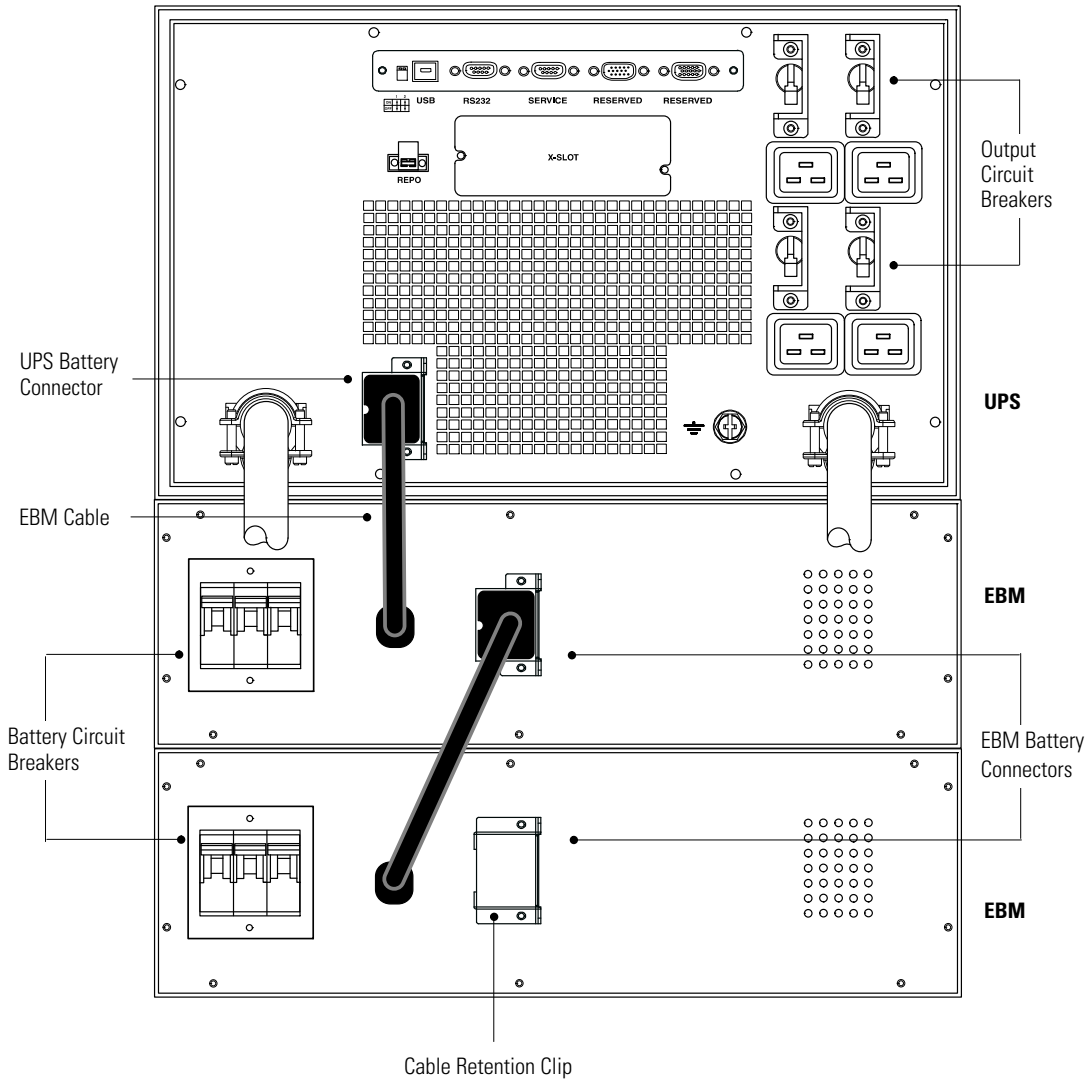

Figure 13. Typical EBM Installation
1. Verify that the battery circuit breaker on the EBM rear panel is in the OFF (O) position (see Figure 13 on page 27).
1. Verify that all battery circuit breakers are in the OFF (O) position (see Figure 13).
4. Plug the EBM cable(s) into the battery connector(s) as shown in Figure 13. Up to four EBMs may be connected to the UPS.
1. Switch all battery circuit breakers to the OFF (O) position (see Figure 13 on page 27).
8. Plug the EBM into the UPS as shown in Figure 13 on page 27.